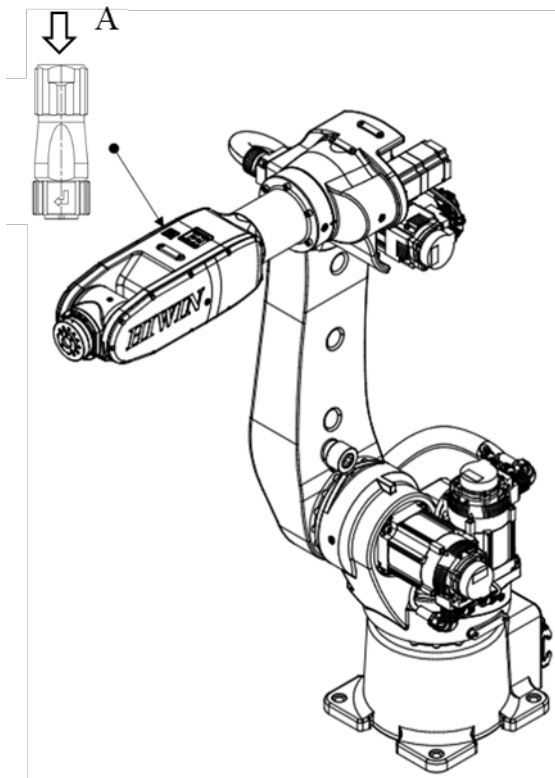
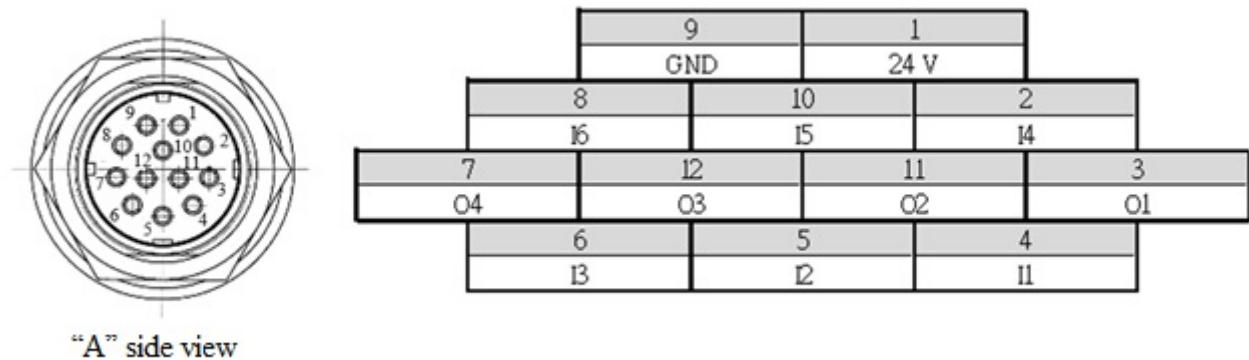
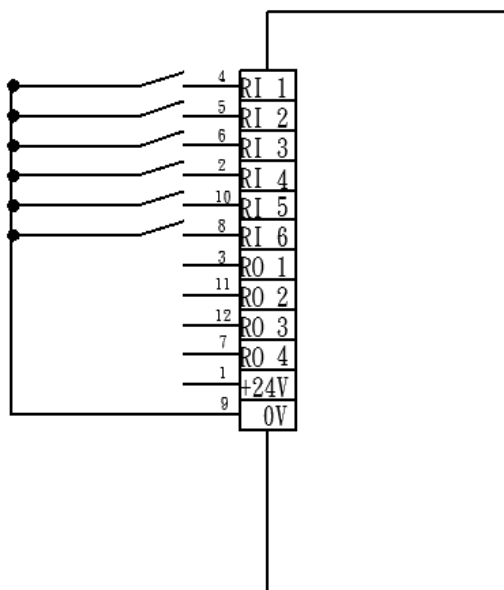
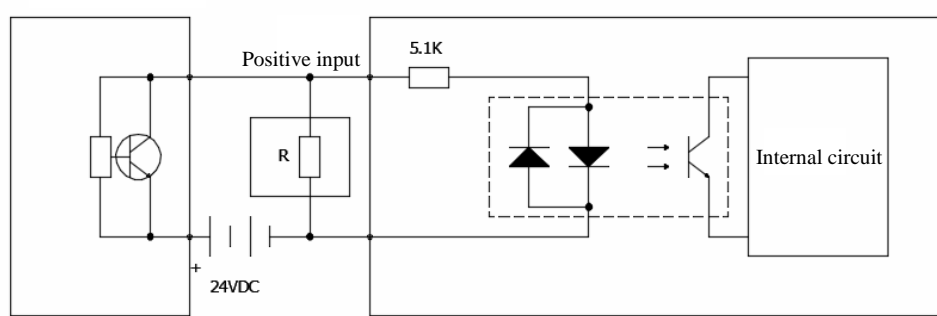

Figure 3-7. R-I/O interface for end effector
Figure 3-8 Pin definition of the R-I/O plug
Figure 3-9. Wiring diagram of input (Standard: Sinking type)
Figure 3-13 Two-wire proximity switch wiring diagram
R-I/O interface for end effector is on the J5 base as shown in Figure 3-7, and the pin assignment of R-I/O connector for user is shown in Figure 3-8. Figure 3-9 ~ 3-12 shows the wiring diagram of R-I/O interface. Figure 3-13 show the two-wire proximity switches connecting method for customers.
- ❖ Two-wire proximity switch may cause Robot Input error action occur due to residual voltage. Therefore, if you want to use two-wire proximity switch, you should connect it according to Figure 3-13 and select the matching R value.